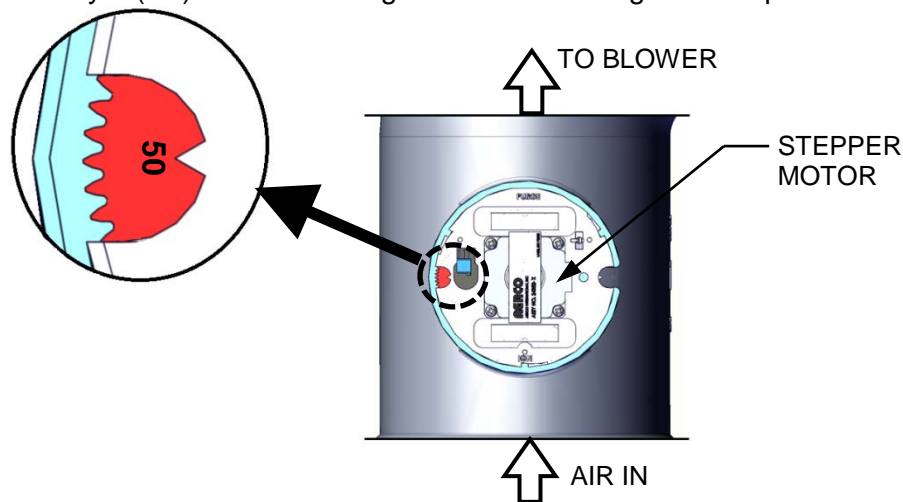

Figure 3-6: Air/Fuel Valve in Ignition Position
- a) The Air/Fuel Valve rotates to the low-fire (Ignition Position) position and closes the ignition switch. The dial on the Air/Fuel Valve will read between **45** and **50** (Figure 3-6) to indicate that the valve is in the low-fire position.